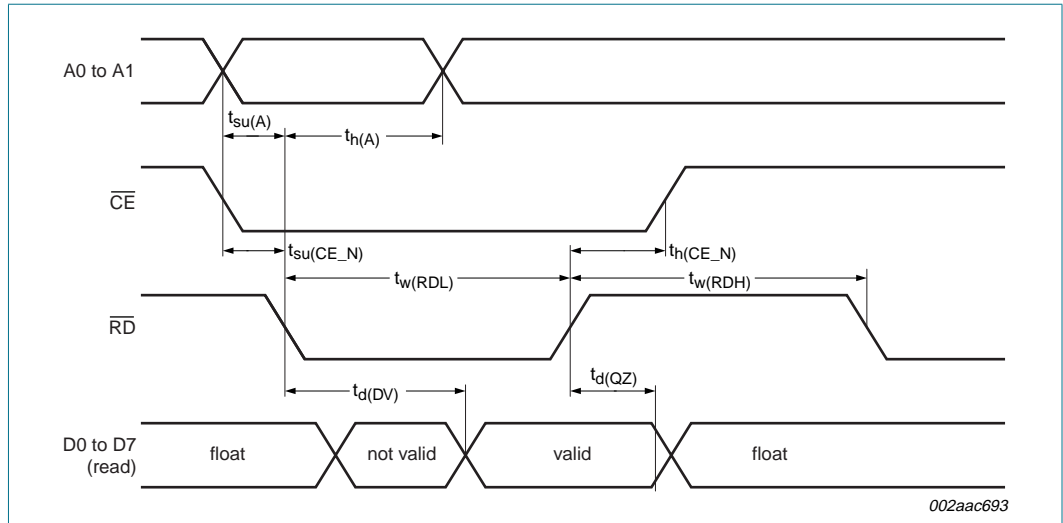

Fig 38. Bus timing (read cycle)
Bus timing (see <a href="#">Figure 38</a> and <a href="#">Figure 40</a>)
[2] All voltage measurements are referenced to ground (GND). For testing, all inputs swing between 0 V and 3.0 V with a transition time of 5 ns maximum. All time measurements are referenced at input voltages of 1.5 V and output voltages shown in Figure 38 and Figure 40.
- [2] All voltage measurements are referenced to ground (GND). For testing, all inputs swing between 0 V and 3.0 V with a transition time of 5 ns maximum. All time measurements are referenced at input voltages of 1.5 V and output voltages shown in Figure 38 and Figure 40.